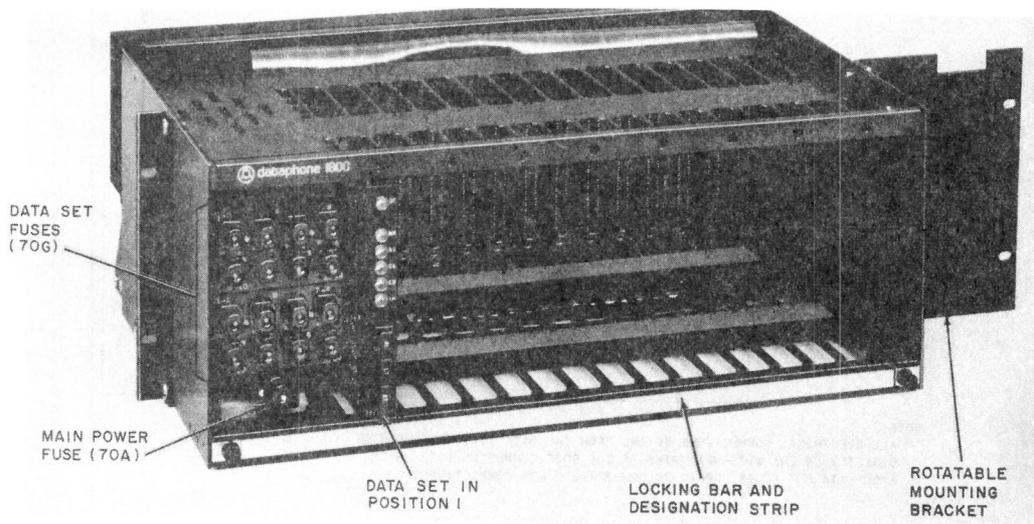

Fig. 3—Front View of 40B1 Data Mounting
2.04 The 40B1 data mounting (Fig. 3) has the same data set capacity as the 39A1; however, Electronic Industries Association (EIA) interface connection to the data sets is made on 25-pin KS-19087-L6 connectors. The customer must provide a cable terminated in a Cinch or Cannon DB-19604-432 plug equipped with a DB-51226-1 hood. Connections to telephone lines are made on 50-pin connectors labeled J1 and J2 on the backplane. Each data set is inserted through guides in the top and bottom of the mounting into a 908L connector. The data